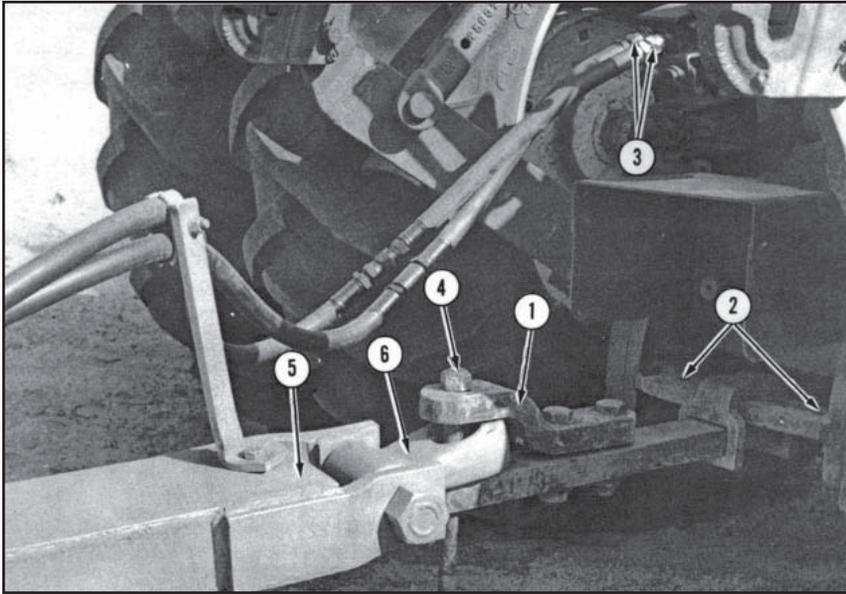

Figure 10 - Hitching the Tractor
DRAWBAR CLEVIS (Figure 10)
DRAWBAR BALE PINS (Figure 10)
4.2.1 HITCHING THE DISC (Figure 10)
1. Back the tractor until hole in the drawbar and clevis is directly over the hole in the disc harrow pole hitch (6).
5. Slowly raise the transport wheels on the disc which will also raise the disc hitch (6 in Fig. 10) up to the tractor drawbar level.
6. Swing the tractor drawbar back until the disc harrow hitch (6 in Figure 10) is positioned between the tractor drawbar and drawbar clevis.
7. Install and secure tractor drawbar hitch pin (4 in Figure 10).
2. Carefully lower the disc until it rests on the ground. Then continue to feather the hydraulic control lever in the lower direction to carefully raise the hitch (6, Figure 10) until it is not supported by the tractor drawbar.